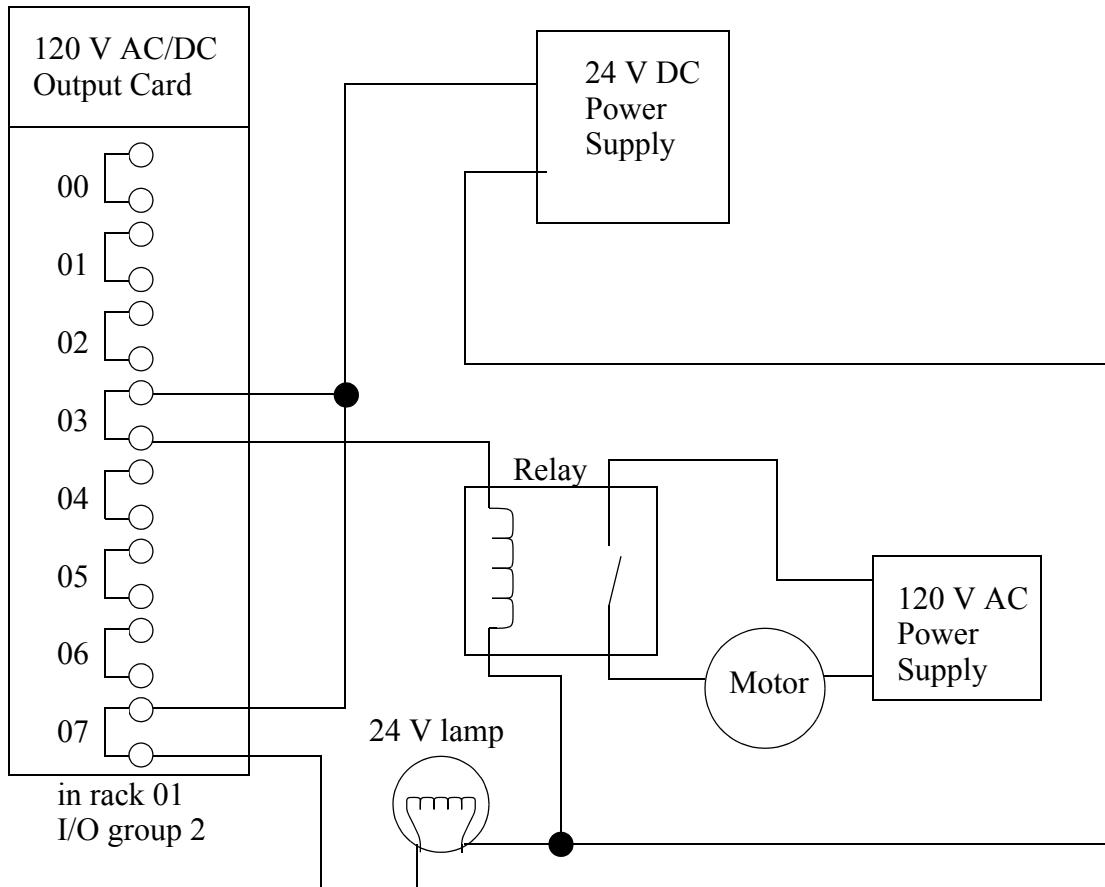

*Figure 3.6 An Example of a 24Vdc Output Card With a Voltage Input (Sourcing)*
The circuits in Figure 3.6 had the sequence of power supply, then device, then PLC card, then power supply. This requires that the output card have a common. Some output schemes reverse the device and PLC card, thereby replacing the common with a voltage input. The example in Figure 3.5 is repeated in Figure 3.6 for a voltage supply card.
3.5 and Figure 3.6 is repeated yet again in Figure 3.7 for relay output.
In this example the 24Vdc supply is connected directly to both relays (note that this requires 2 connections now, whereas the previous example only required one.) When an output is activated the output switches on and power is delivered to the output devices. This layout is more similar to Figure 3.6 with the outputs supplying voltage, but the relays could also be used to connect outputs to grounds, as in Figure 3.5. When using relay outputs it is possible to have each output isolated from the next. A relay output card could have AC and DC outputs beside each other.